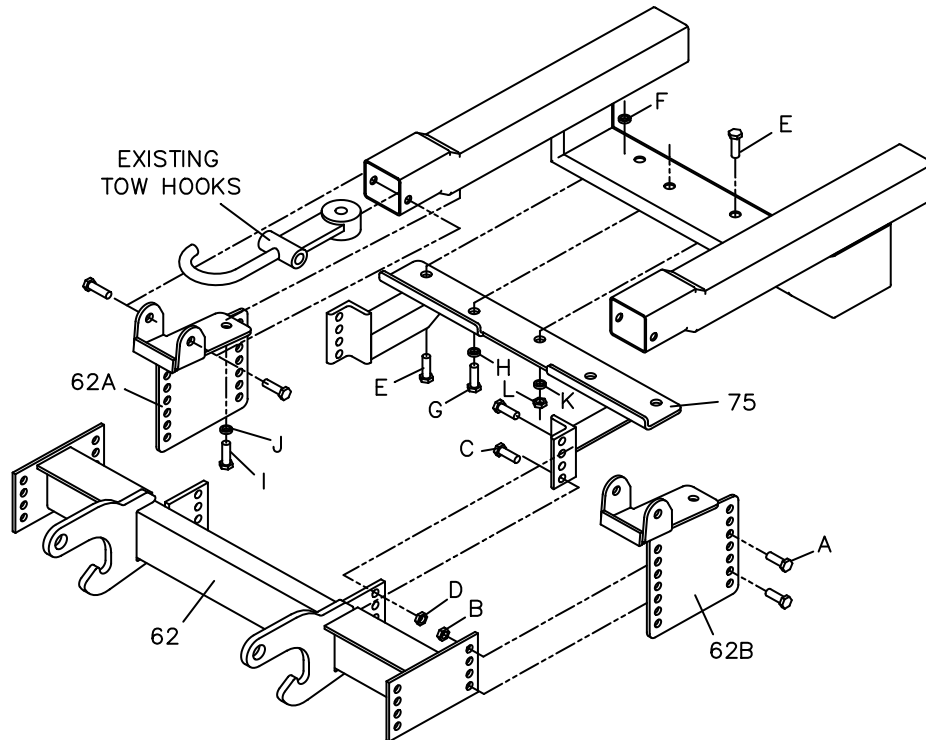

Figure 1
1. Remove the six mounting bolts being used on the two tow hooks and position the PUSH BEAM SUPPORT PLATES (Ref. 62A and B, Fig. 1) to the front frame rails of the truck. Use the M12-1.75 x 40mm hex head bolts and the M12 lock washers to bolt the PUSH BEAM SUPPORT PLATES through the frame rail to the tow hooks (see Fig. 1). With both support plates in place two slots should be cut in the air dam for clearance of the support plate bottom plates (Ref. 62A and B). Fasteners should only be finger tight.
2. Remove the two rear existing bolts holding the plastic skid plate in place on the vehicle. Use the M10-1.5 x 40mm hex head bolts, the M10 lock washers, the 5/8"-11 x 2" hex head bolts, the 5/8"-11 self locking nuts, the 5/8" lock washer, and the 5/8"-11 nut to mount the ANGLE BRACKET (Ref. 75, Fig. 1) into place on the inside of the skid plate. The skid plate will have to be cut for clearance of the 5/8"-11 nut and 5/8" washer. Bolts should only be finger tight.
3. Bolt the PUSH BEAM (Ref. 62, Fig. 1) in place using the 1/2" - 13 x 1- 1/2" grade 5 hex head bolts, the 1/2"-13 x 1 1/2" grade 8 hex head bolts, and self locking grade 5 and grade C nuts provided. To achieve the proper push beam height the push beam will need to be pushed up into the air dam causing deformation of the plastic. Fasteners should only be finger tight.